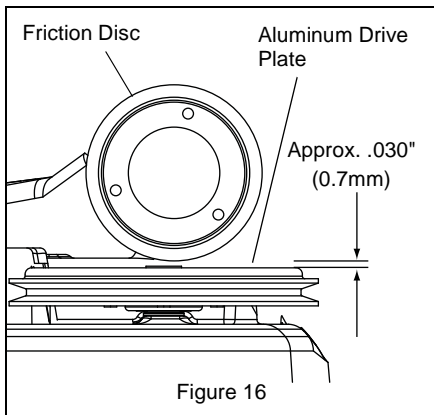

Figure 16
See Figure 16.
**NOTE:** When the wheel drive control is disengaged, the gap between the friction disc and the aluminum drive plate should be approximately .030" (.7mm). See Figure 16.